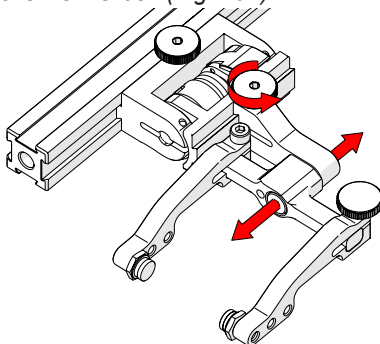

Fig. 198 - Adjust swing arm
3. Use swing arm knob to position the swing arm (Fig. 198).